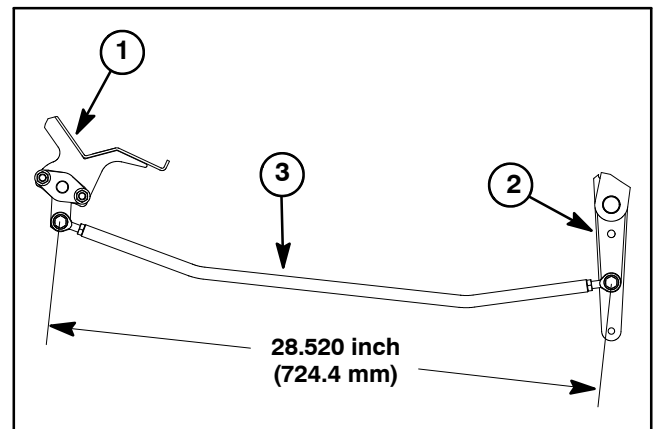

Figure 53
1. Rod ends on traction rod assembly should be installed equally into traction rod so that distance between center of rod ends is 28.520" (724.4 mm) (Fig. 53). Leave rod end jam nuts loose until traction rod is secured to traction pedal and speed control shaft to make sure that rod ends do not bind.